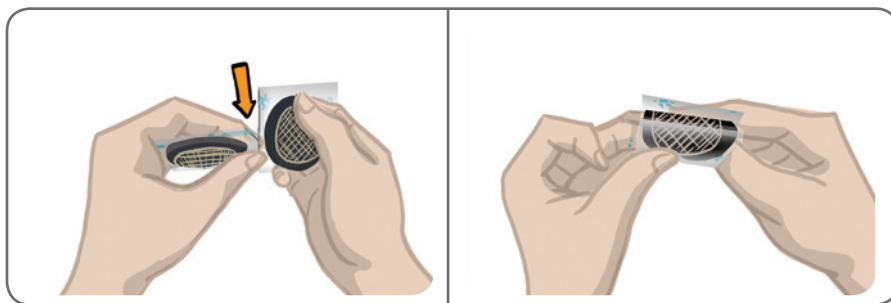

Figure 8-1: Separating the Hydrogel Electrodes and Splitting the Two-Piece Covers
2. Separate the two new hydrogel electrodes along the perforation. See Figure 8-1.
3. Split the two-piece covers on each electrode and discard them. See Figure 8-1.